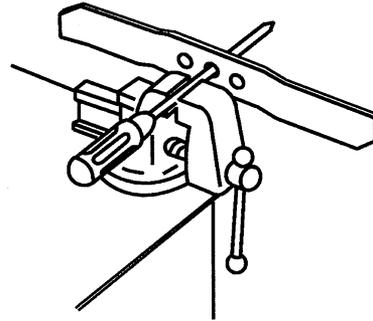

Figure 27
1. Check the balance of blade by placing the center hole of blade over a nail or screwdriver shank clamped horizontally in a vise (Fig. 27).